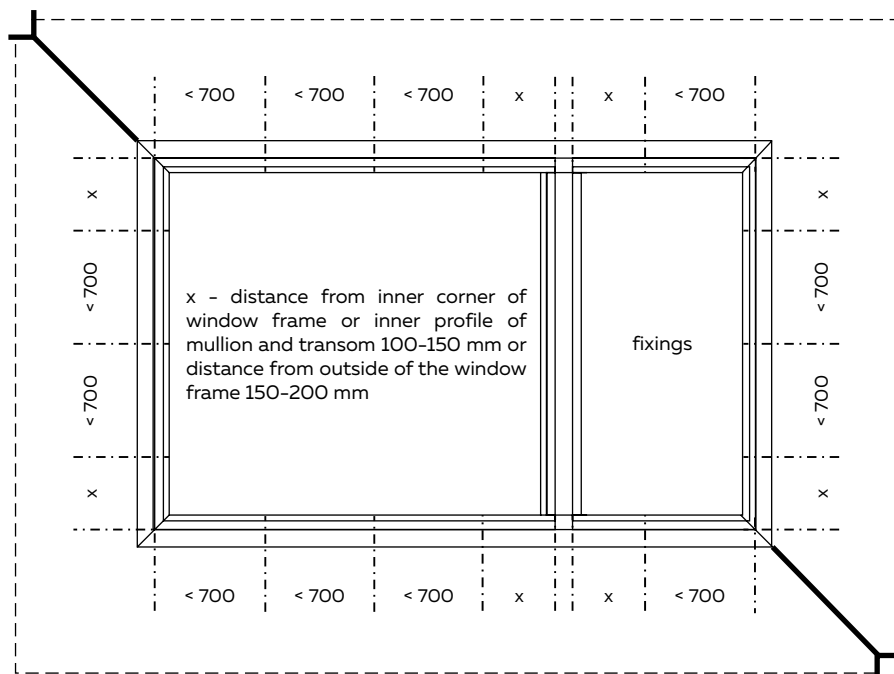
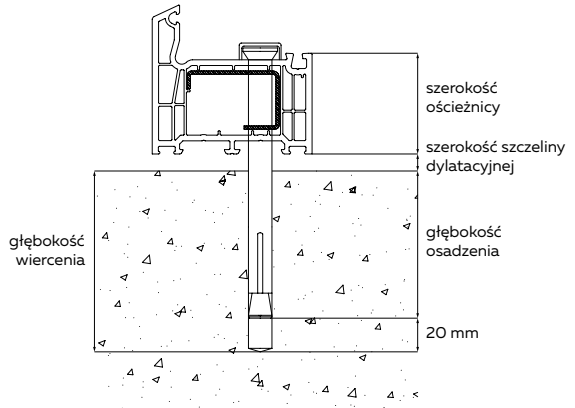
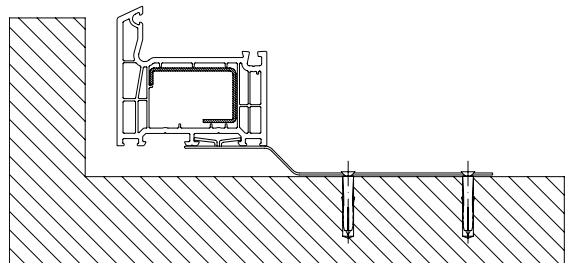

Fig. 1 Fixing PVC profiles
Fig. 2a
Fig. 3
- The window frame should be fixed with dowels, screws (Fig. 2a and 2b p. 6) or anchors (Fig. 3 p. 6). When using dowels in the lower part of the frame, the dowel holes must be filled with silicone to ensure sealing. The positioning of the fixings is shown in Fig. 1 on page 5.